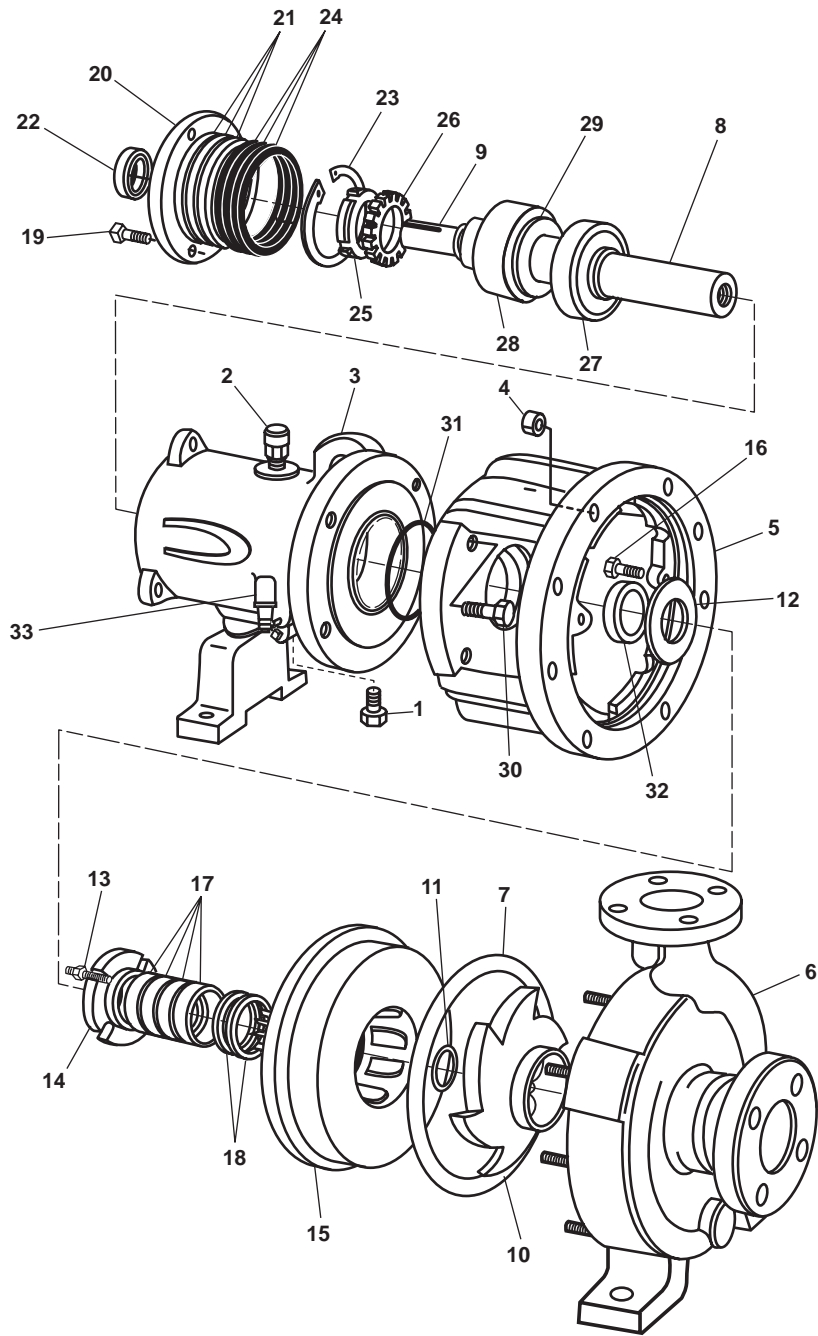

Figure 1. Ballast Pump Repair
1. Place a suitable drain pan under the pump's drain plug (figure 1, item 1). Remove the drain plug and drain all oil from the pump.
2. Remove the vent plug (figure 1, item 2) from the bearing housing (figure 1, item 3).
3. Remove the eight casing nuts (figure 1, item 4) securing the bearing housing adapter (figure 1, item 5) to the pump casing (figure 1, item 6).
4. Separate the bearing housing adapter (figure 1, item 5) from the pump casing (figure 1, item 6) and remove the rear cover gasket (figure 1, item 7). Discard the rear cover gasket.
5. Install the impeller wrench onto the shaft (figure 1, item 8) and the key (figure 1, item 9).
6. Turn the impeller (figure 1, item 10) in the clockwise direction and move the impeller wrench in the 11:00 o'clock position. Quickly spin the impeller in the counterclockwise position causing the impeller wrench to impact the hard surface of the workbench. Refer to figure 2.
7. Unscrew the impeller (figure 1, item 10) and remove it from the shaft (figure 1, item 8).
8. Remove the impeller gasket (figure 1, item 11) from the shaft (figure 1, item 8). Discard the impeller gasket.
9. Remove the inboard deflector (figure 1, item 12) from the bearing housing adapter (figure 1, item 5).
10. Remove the four nuts (figure 1, item 13) securing the gland (figure 1, item 14). Slide the gland away from the rear cover plate (figure 1, item 15).
11. Install the brass shaft guide onto the shaft (figure 1, item 8).
12. Remove the two cap screws (figure 1, item 16) securing the rear cover plate (figure 1, item 15) to the bearing housing adapter (figure 1, item 5).
13. Slowly separate the rear cover plate (figure 1, item 15) from the bearing housing adapter (figure 1, item 5) and slide the rear cover plate off the shaft (figure 1, item 8).
14. Remove the packing set (figure 1, item 17) from the rear cover plate (figure 1, item 15). Discard the packing set.
15. Remove the two lantern rings (figure 1, item 18) from the rear cover plate (figure 1, item 15).
16. Remove the brass shaft guide from the shaft (figure 1, item 8).
17. Loosen the three bolts (figure 1, item 19) securing the bearing carrier (figure 1, item 20). Remove the bearing carrier.
18. Remove the bearing carrier gaskets (figure 1, item 21) from the bearing carrier (figure 1, item 20). Discard the gaskets.
19. Remove the outboard oil seal (figure 1, item 22) from the bearing carrier (figure 1, item 20). Discard the outboard oil seal.
20. Remove the bearing snap ring (figure 1, item 23) using snap pliers. Discard the snap ring.
21. Remove and retain the shims (figure 1, item 24) from the bearing housing (figure 1, item 3).
22. Remove the bearing lock nut (figure 1, item 25) and the bearing lockwasher (figure 1, item 26). Discard the bearing lock washer.
23. Remove the shaft (figure 1, item 8) from the bearing housing (figure 1, item 3).